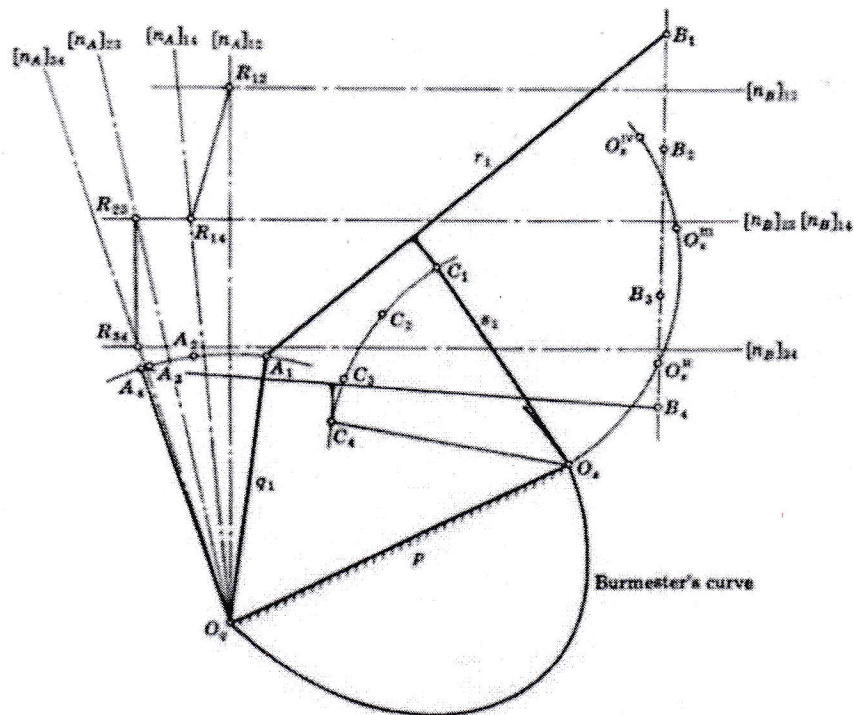

Figure 4
b) The body r (in below figure 4) is hinged at A to the oscillating lever q, pivoted to the frame at O_q. The point B is to move through collinear positions B₁, B₂, B₃ and B₄. A second guiding-link s is to complete a suitable four bar linkage.